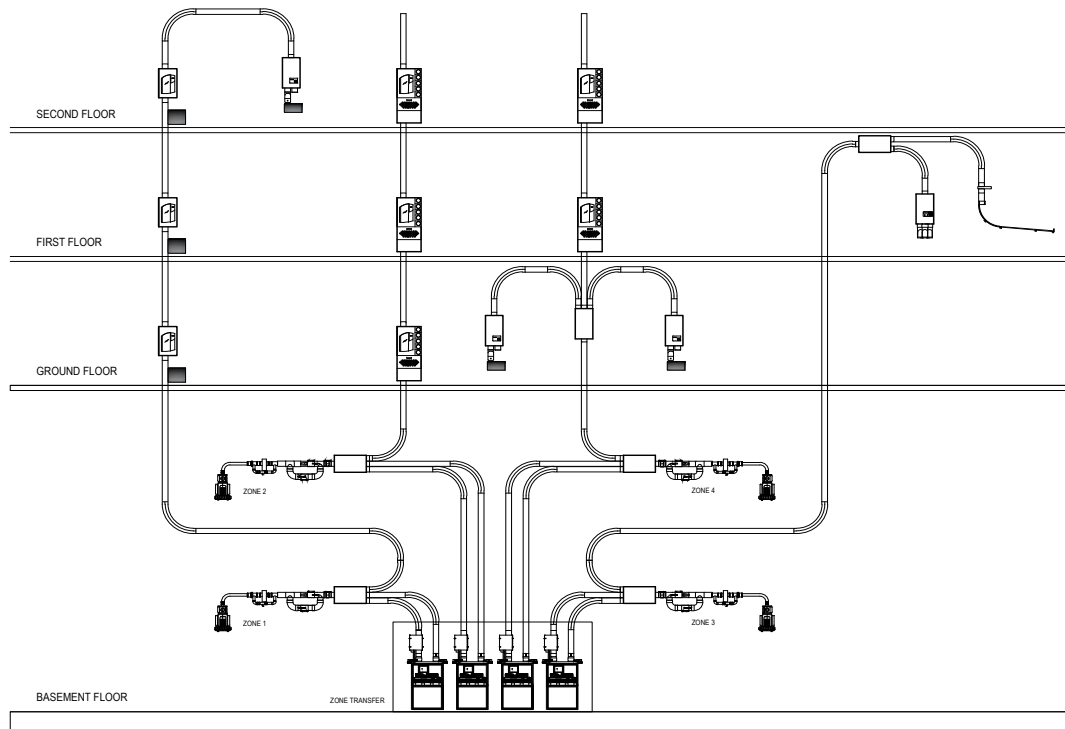

Figure 9.2 – Typical Pneumatic Tube System Layout – Multi-Zone System
- Multi-zone systems, as seen in Fig. 9.2, are connected together by a transfer system. Each zone has its independent air supply (blower) so transmission can take place at the same time. Dividing a system into multi-zones increases the number of carriers that can be transported as each zone can operate independently. Productivity is improved, efficiency is increased while NPA (non-productive activities) and staffing requirements are decreased.